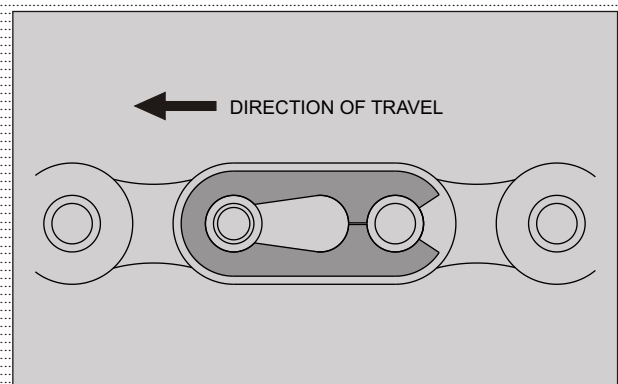

Fig. 2.102
**Assemble link set chain lock plate in such way that the slit end faces the opposite direction of the chain rotation to avoid severe damages. (Fig. 2.102)**